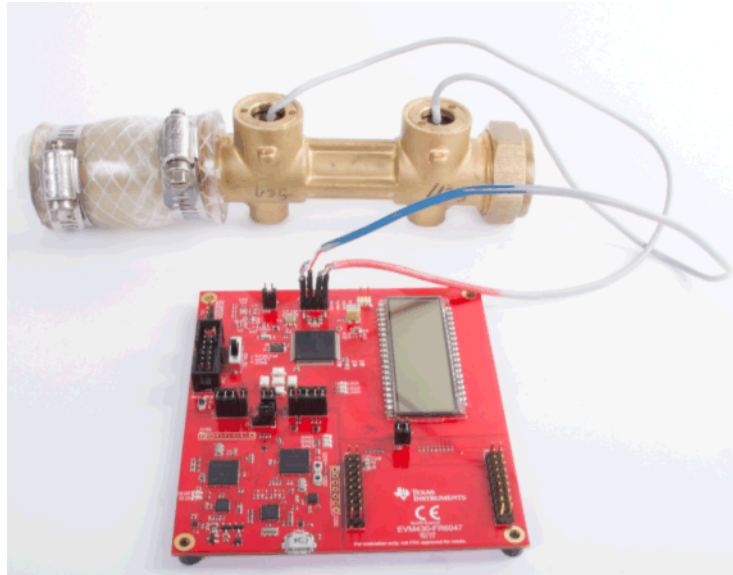

Figure 1. EVM430-FR6047 Connected to Flow Meter
1. Connect the EVM430-FR6047 to the flow meter (see Figure 1).